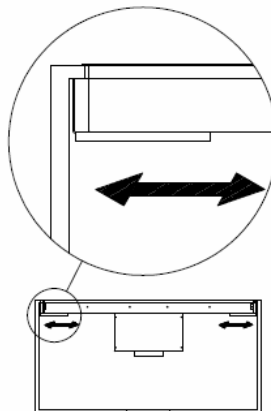

Fig 12
3. Move the plate using another screwdriver to clamp the Rigoletto to the cupboard and then re-tighten the screws (Fig 12).